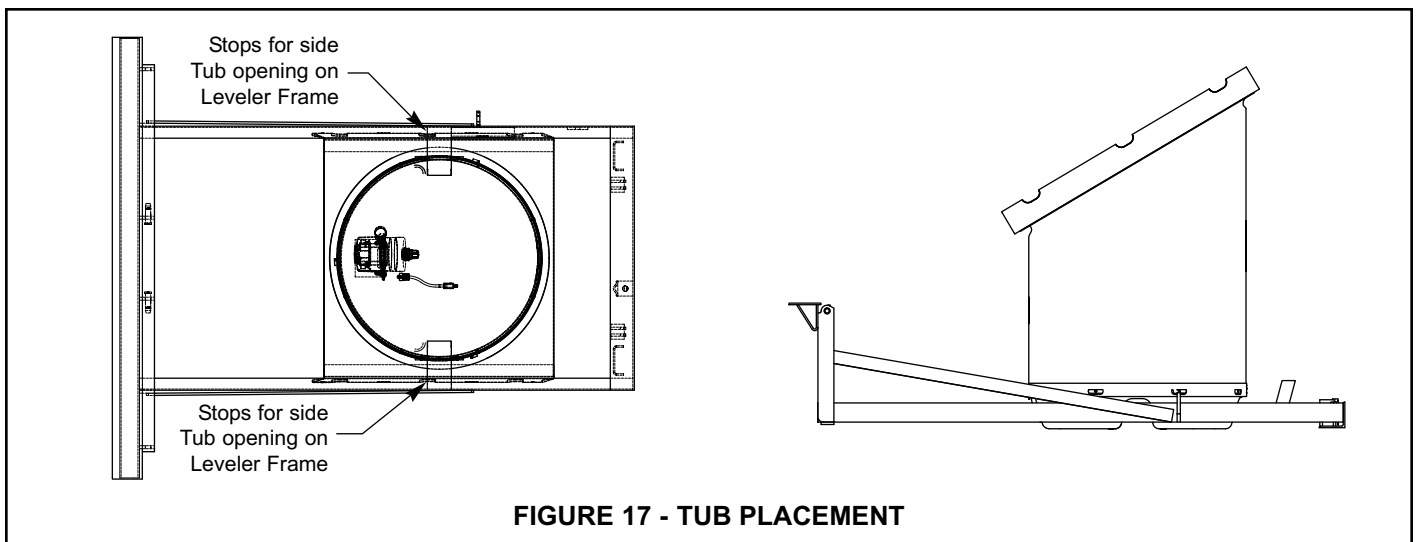

FIGURE 17 - TUB PLACEMENT
17. **RHA & AL Series Only:** Place Air Tower Tub into leveler frame correctly. See figure 17.